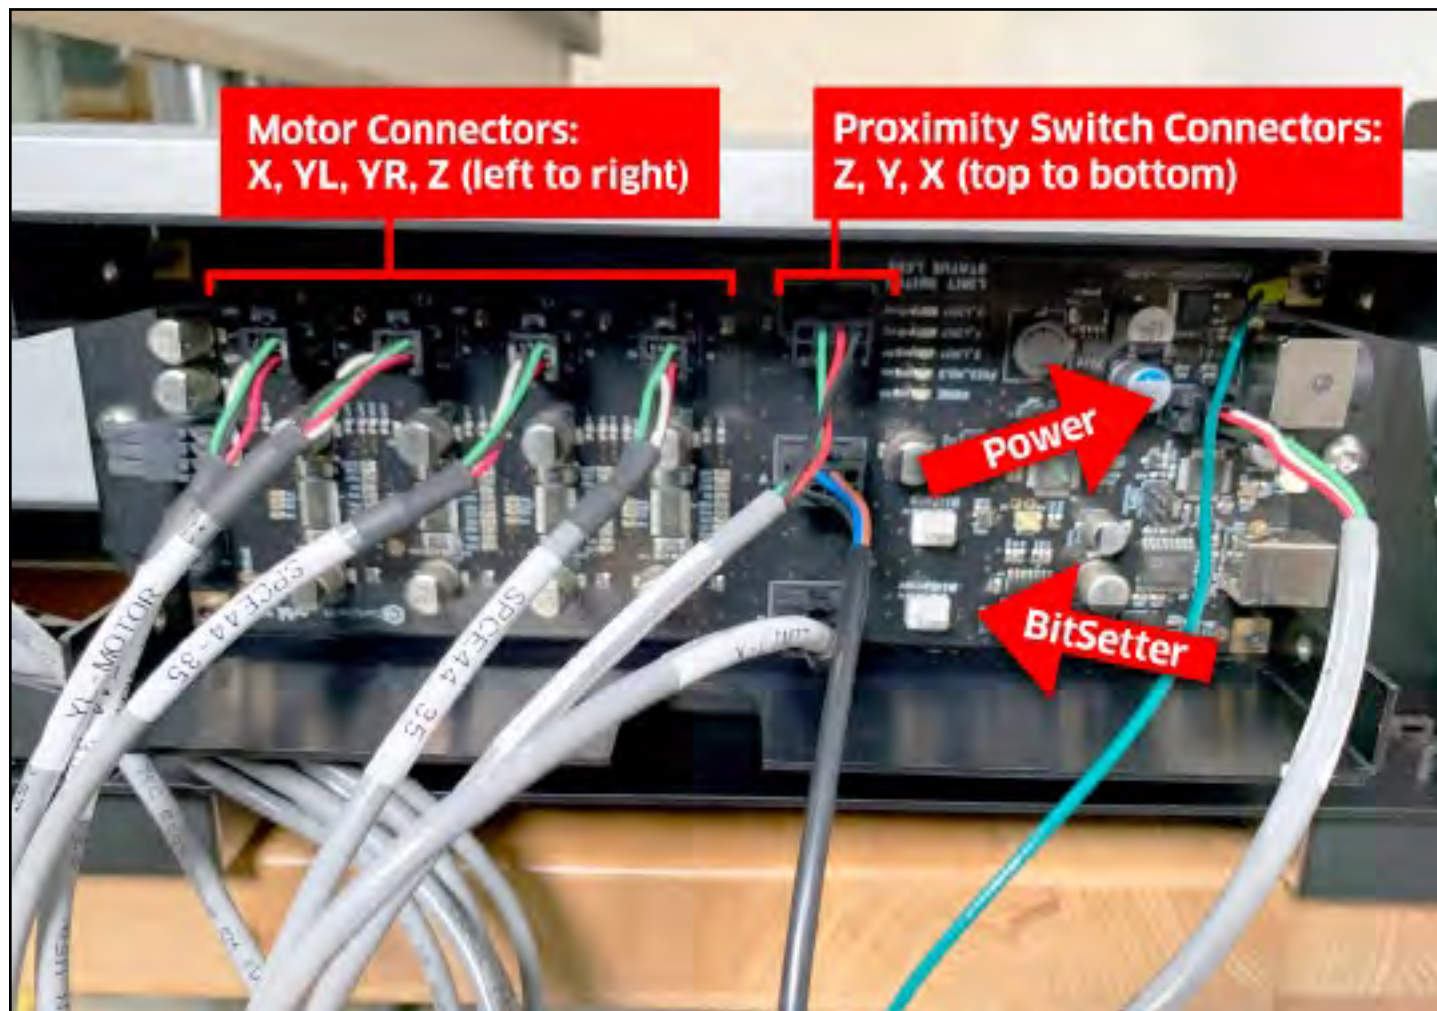

Figure 9-4
1. Plug the gray 4-pin male power extension cable into the 4-pin female connector at the top-right of the controller labeled “Pwr\_conn”. See **Fig. 9-4**.
2. If you have purchased the optional BitSetter accessory, plug the 3-pin female BitSetter cable into the 3-pin male connector at the bottom of the controller labeled “BitSetter”. See **Fig. 9-4**.
3. Plug the three 8-pin male proximity switch cables into the 8-pin female connectors down the center of the controller labeled “Z”, “Y”, “X”. See **Fig. 9-4**.
4. Plug the four 4-pin male stepper motor cables into the 4-pin female connectors at the top-left labeled “X”, “Y2”, “Y1”, “Z”. See **Fig. 9-4**.